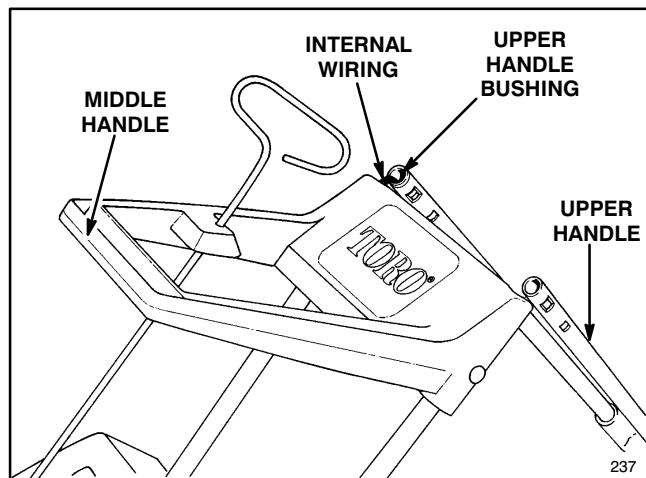

Figure 1
- Thoroughly inspect the open internal wiring before assembling snowthrower (Fig. 1).
1. Stand snowthrower upright and position upper handle in inverted position to prepare for handle assembly (Fig. 1). Inspect the open internal wiring for damage.
**Note:** Do not remove bushing from upper handle tube (Fig. 1).